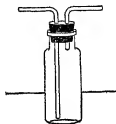

Fig. 23
*d*. [HOOD] If sulphur dioxide gas is not furnished in the laboratory from cylinders of the liquid,\* it may be prepared for use in 84 or 89 as follows. Fit up a flask (250 c.c.) as in Fig. 17 (p. 51). If 84 is to be performed, a gas washing-bottle (Fig. 23) will be required to dry the gas, and will contain enough concentrated sulphuric acid to immerse the longer tube to a depth of half an inch. Attach the longer tube of the bottle by rubber tubing to the generating flask. Place about 15 g. of sodium bisulphite in the flask. Test the apparatus to see that it is air-tight. Dilute some concentrated hydrochloric acid (1:1) and place it in the funnel.